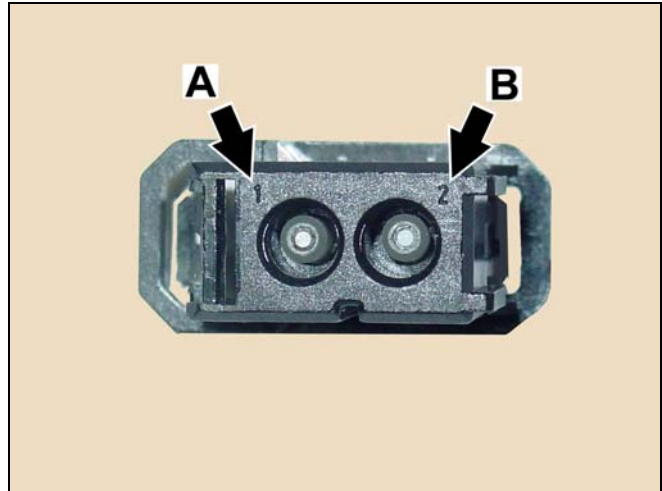

Figure 17
- Remove the fiber labeled “SDARS” from slot 1 (A, Figure 17) of the MOST connector and insert the fiber labeled “SDARS 1” in its place
- Remove the fiber labeled “TEL” from slot 2 (B, Figure 17) of the MOST connector and insert the fiber labeled “TEL 1” in its place